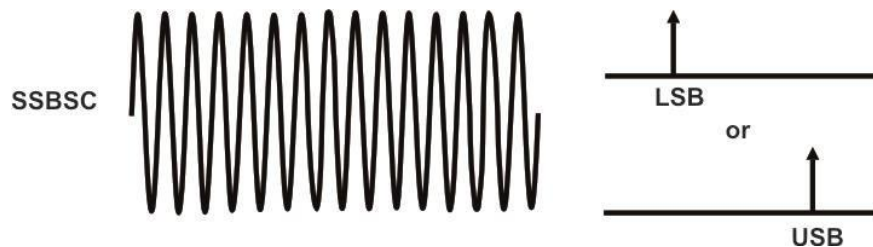

Fig. 2
8. Connect Balance Modulator O/P TP9 to Ceramic Filter I/P TP11 and observe the wave form at the output of Ceramic Filter TP12. The filter will completely remove the upper sideband of amplitude modulated signal. And observed signal will be SSB signal shown in Fig. 2.